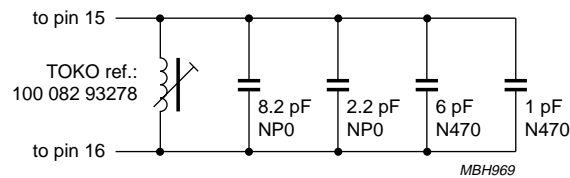
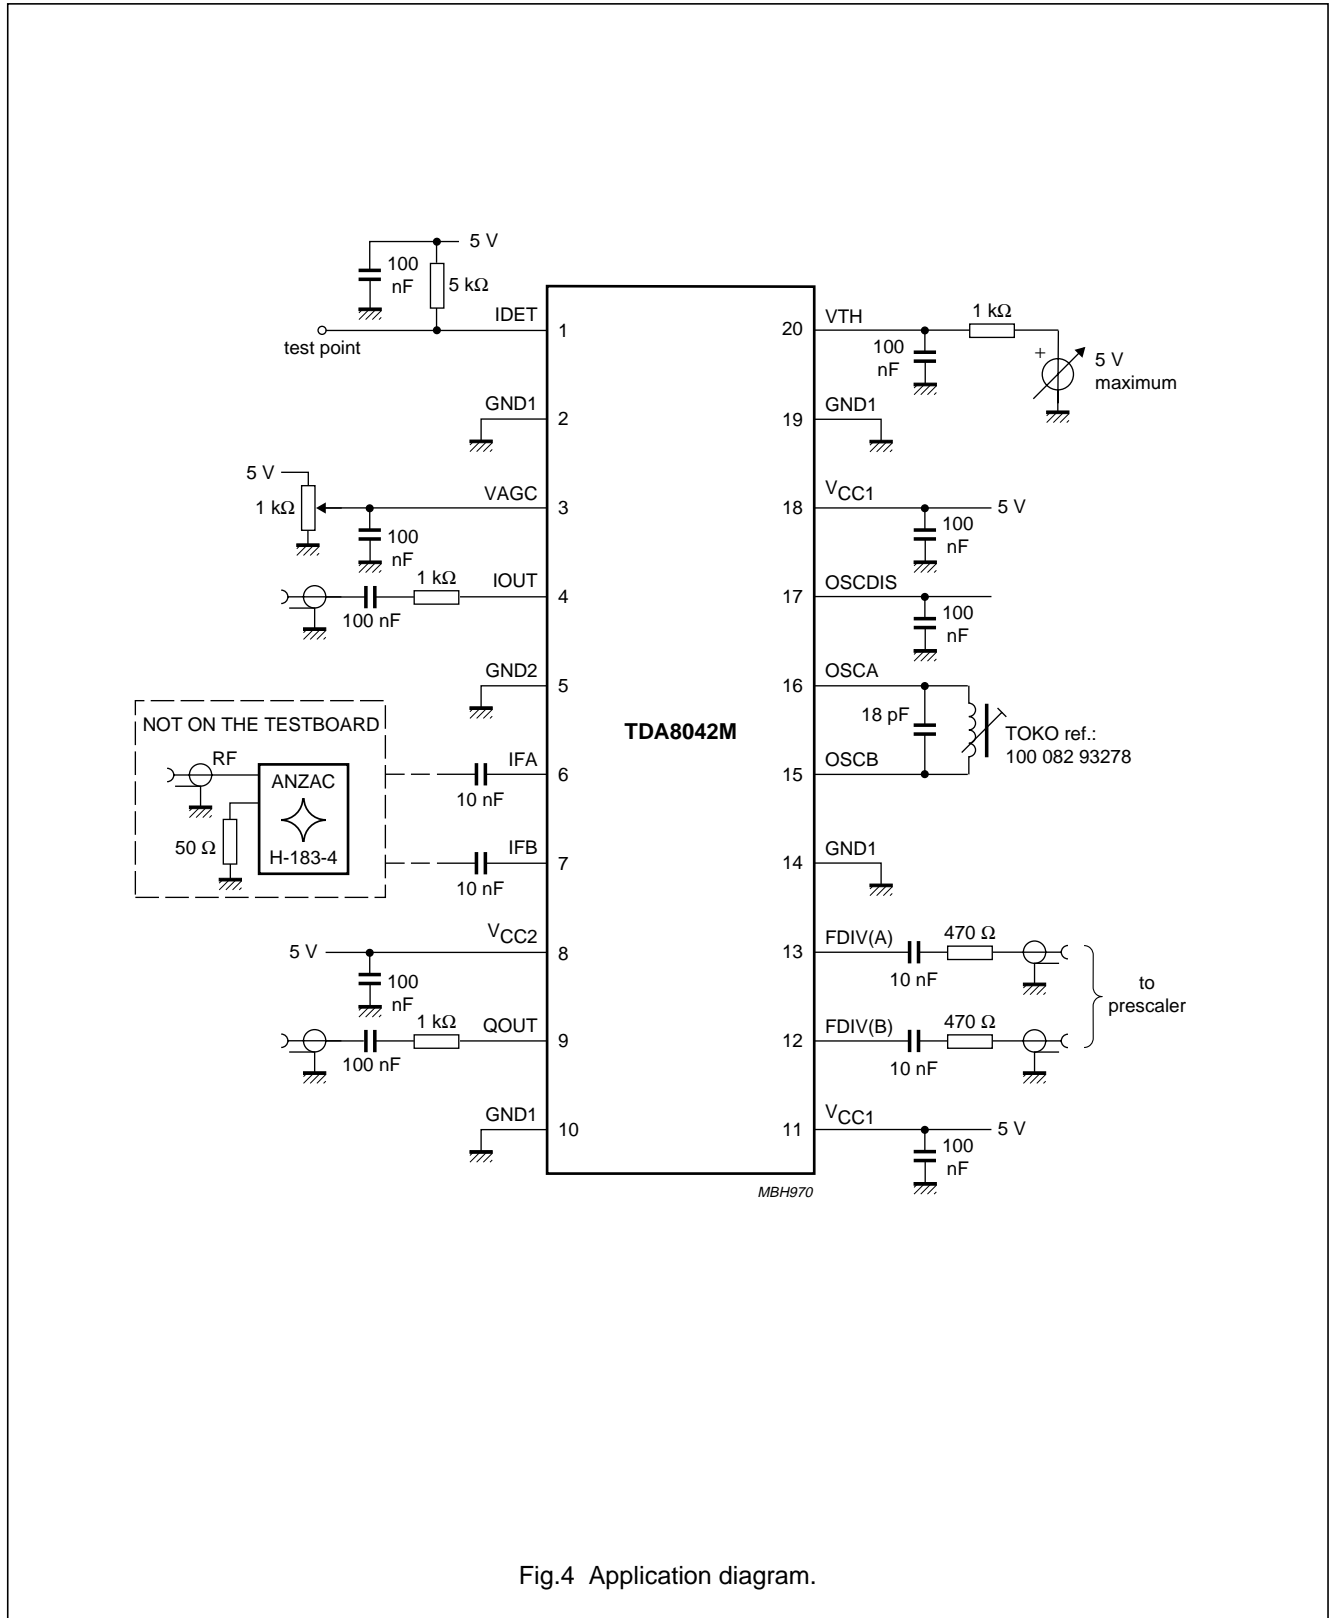

Fig.3 Temperature compensation circuit.
Fig.4 Application diagram.
$V_{CC} = 5\text{ V}$; $T_{amb} = 25\text{ }^{\circ}\text{C}$; $R_{L(IQ)} = 1\text{ k}\Omega$; measured in application circuit of Fig.4; unless otherwise specified.
10. The drift of the oscillator frequency with temperature is defined for $\Delta T_{amb} = 25$ °C. It is measured in the application circuit (see Fig.4) with a temperature compensated tank circuit. The temperature compensation used for this measurement is realized using the application which is depicted in Fig.3.